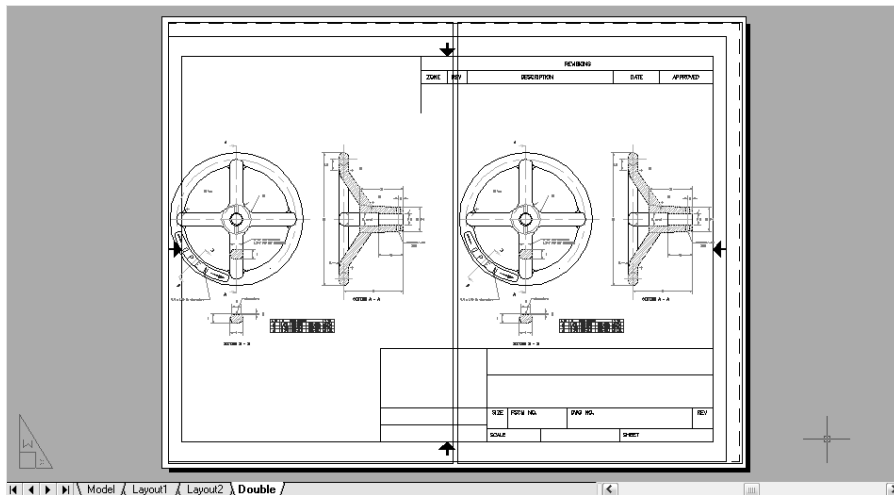

**Figure 17-8:** Using the Layout Wizard to create a paper space layout with floating viewports.
12. Save your drawing. It should look like Figure 17-8.